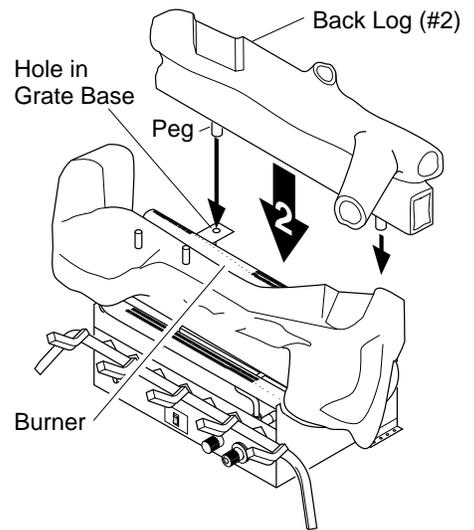

Figure 27 - Installing Back Log (#2)
2. Locate pegs on the bottom of back log (#2). Slide these pegs into the holes in the grate base behind the burner (see Figure 27).